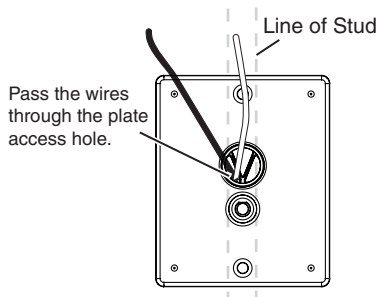

Figure 8 — Passing the wire through the plate
6. Pull sufficient wire up through the holes in the rear plate (see figure 8) to allow ease of connection to the speaker after installation.